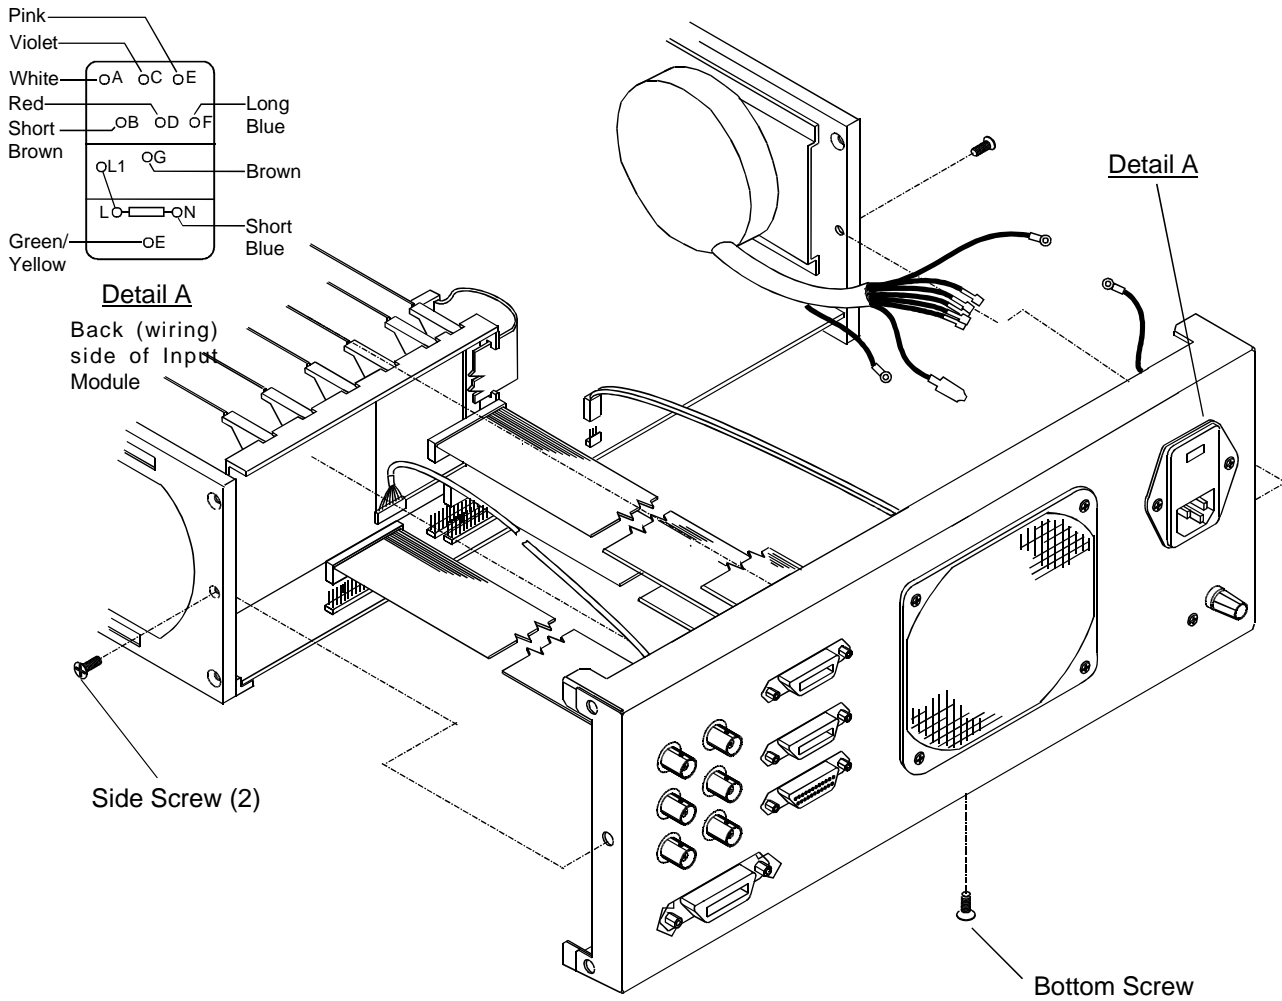

Figure 6-7. *Rear Panel Removal*
- Step 9.** Reassemble in the reverse order. Refer to Table 6-1 and Figure 6-7 (page 6-16) for the color coded connections to the Line Power Input connector.
- Step 3.*** Carefully remove one screw from the middle of either side of the rear panel (Figure 6-7).